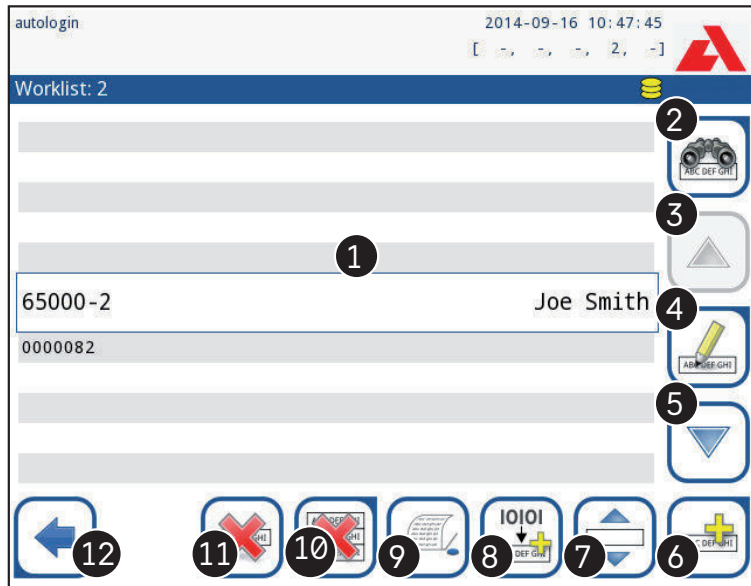

Figure 22: The Worklist menu
2. Access the Worklist menu (Figure 22) via the **Measurement » Worklist** menu and tap the **Download worklist from LIS** button.
Key to Figure 22: